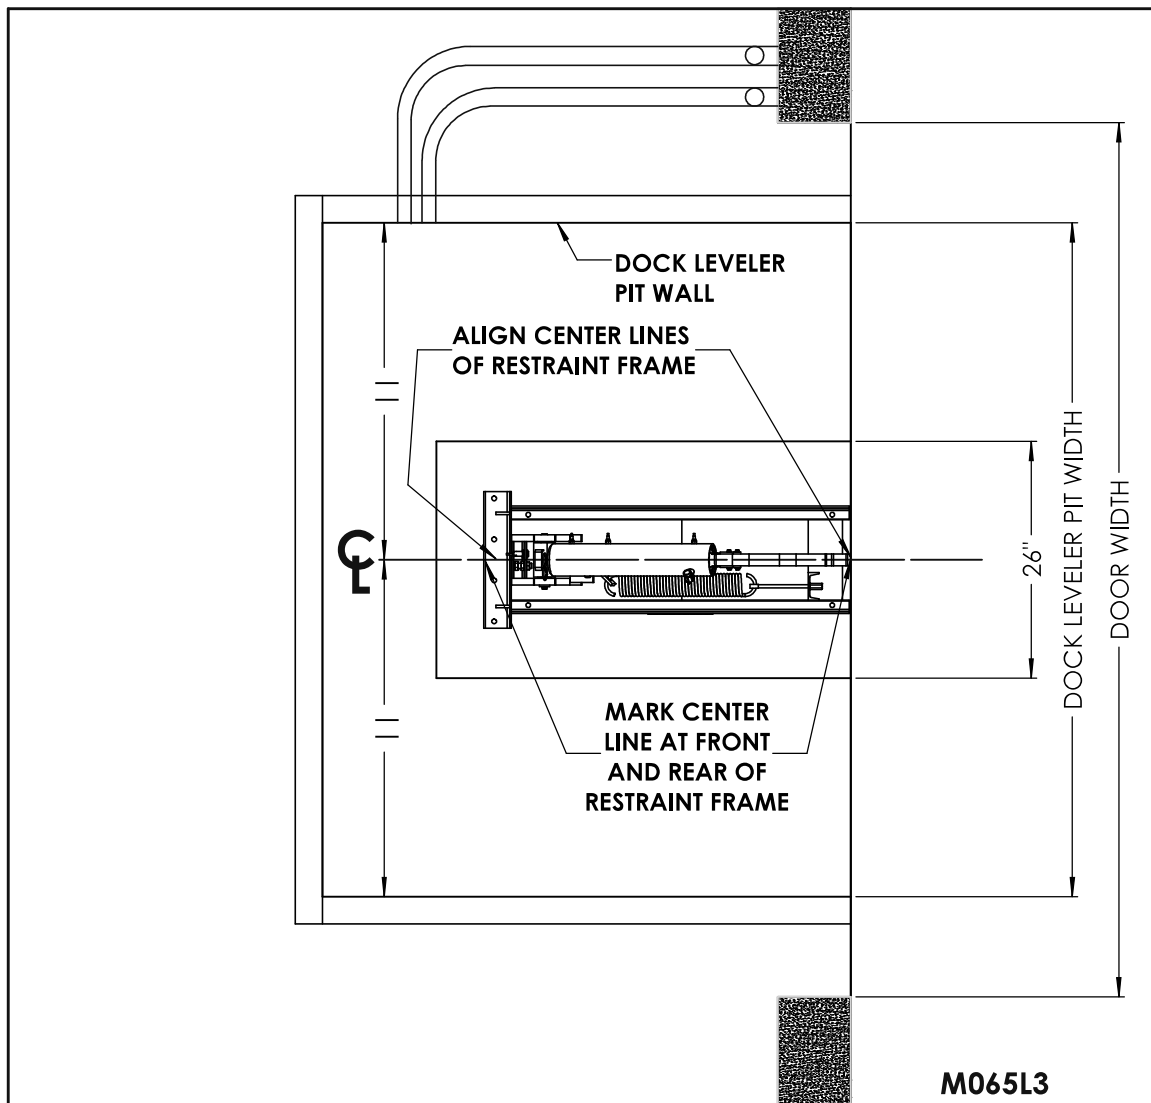

Figure 4: Position the Ultrahook
4. ___ Mark the center line of the pit floor from front to back (see Figure 4: Position the Ultrahook on page 8).
5. ___ Mark the center line of the Ultrahook frame at the front and back (see Figure 4: Position the Ultrahook on page 8).
7. ___ Position the Ultrahook into the pit, keeping the front of the frame flush with the outside surface of the foundation wall. Align centerlines (front and rear) of the Ultrahook with centerlines of the pit (see Figure 4: Position the Ultrahook on page 8).